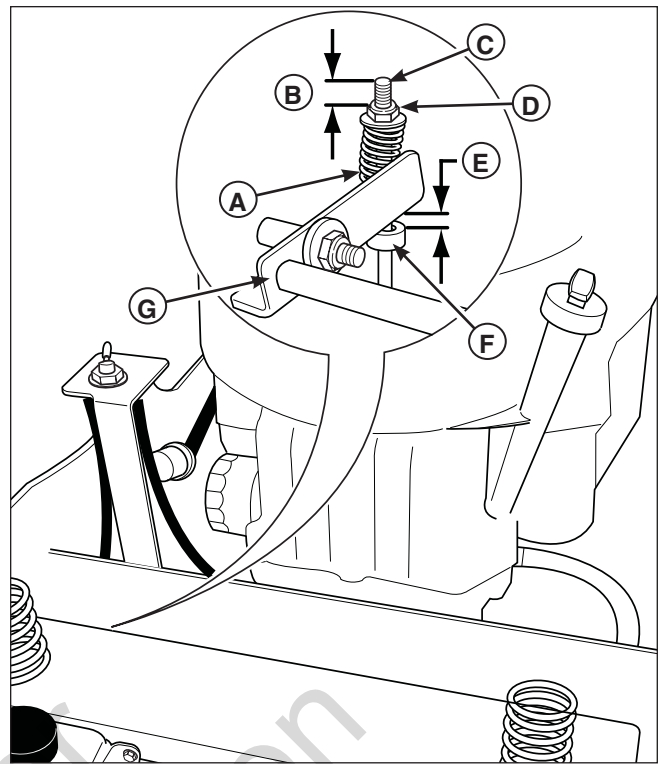

Figure 34. Parking Brake Adjustment
3. Measure the distance from the top of the brake spring rod (C, Figure 34) to the top of the lock nut (D) on both sides of the unit. The measurement should be $.50''$ (1,27 cm). If not, adjust the locknut to achieve the measurement of $.50''$ (1,27 cm)
4. Measure the distance between the bottom of the brake shaft weldment (G) and the top of the set collar (F). The measurement should be $.375''$ (0,95 cm). If not, position the set collar until the measurement equals $.375''$ (0,95 cm).